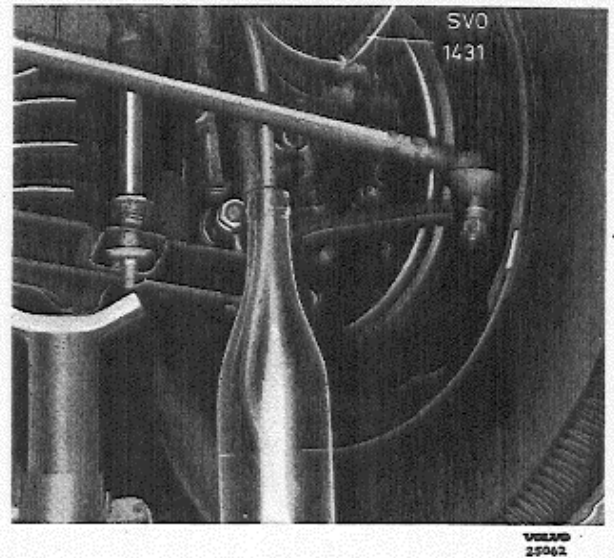

Fig. 30. Venting
- Place key SVO 1431 with hose on the venting nipple and immerse the other end of the hose in a collecting vessel, see Fig. 30.